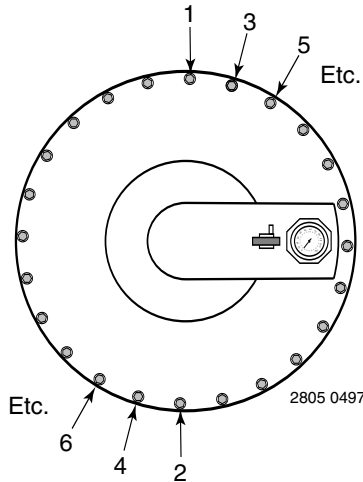

Figure 4 - Tighten bolts in sequence shown.
5. Install bolts, washers and nuts. Tighten nuts evenly and alternately (that is, on opposite sides of tank) around filter. See Figure 4.